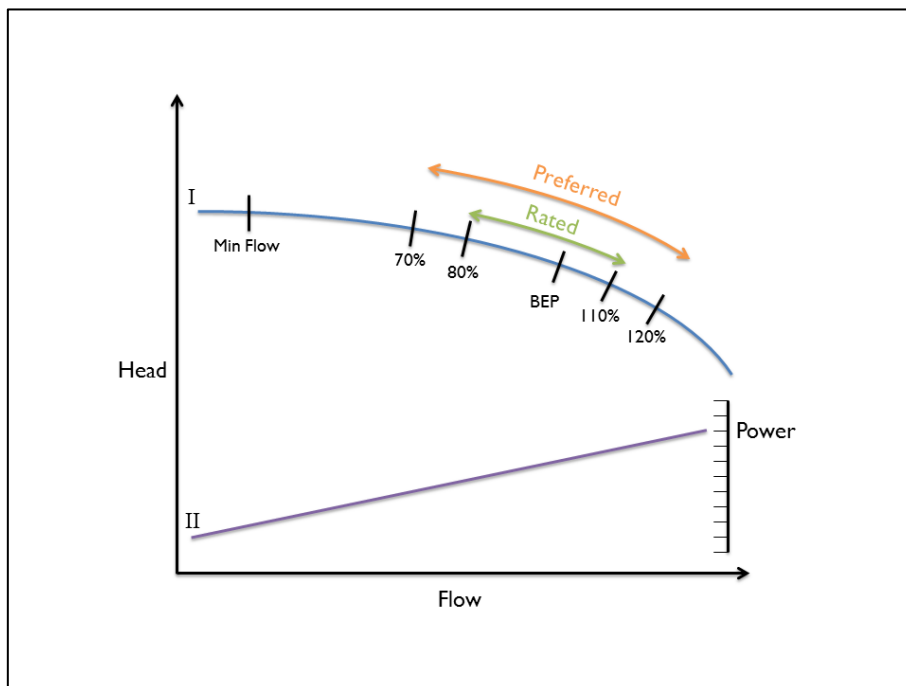

Figure 1
- **Rated region** (see Figure 1): API 610 recommends that the rated flow is located between 80% - 110% of BEP.
- **Preferred operating region** (see Figure 1): API 610 states that the preferred operating region should be between 70% - 120% of the BEP.